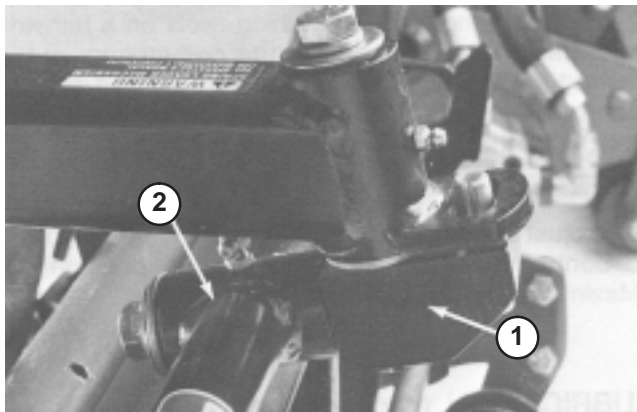

Figure 6
(Fig. 6–7)
2. Align the horizontal shaft of the dethatching unit attaching joint with the pivot tube on the carrier frame. Insert the attaching joint into the tube (Fig. 6).